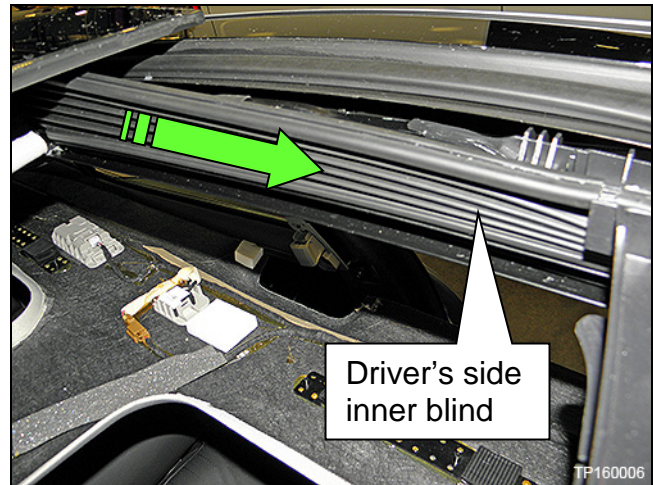

Figure 16
- c. Slide each inner blind toward the front of the vehicle and off of the Moonroof guides (Figure 16).
NOTE: Figure 16 is shown from inside the vehicle.